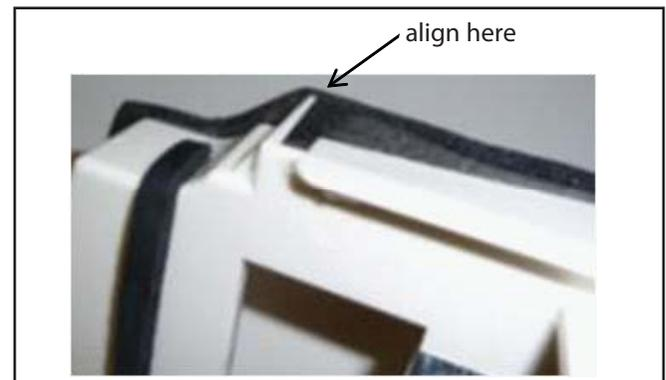

Figure 6-67
2. When replacing the rear gasket, be sure that the edge of the new gasket is aligned with the tips of the small “wings” on either side of the Housing as shown. Figure 6-67.